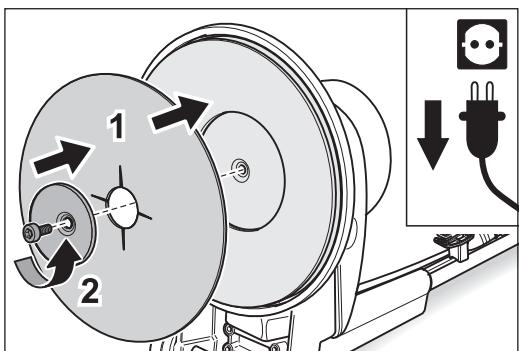

Fig. 19 Place the new sanding disc in the sanding plate and screw it in place. Turn the screw **anti-clockwise to tighten** (LEFT-HANDED THREAD)!
- 7 Place a new sanding disc on the sanding plate and push the fastening screw with paper retaining disc into the sanding plate (Fig. 19).
- 8 Use the hexagonal socket wrench to turn the fastening screw **anti-clockwise** into the sanding plate (LEFT-HANDED THREAD)! Please ensure that the sanding disc is attached to the sanding plate as centrally as possible (Fig. 19).